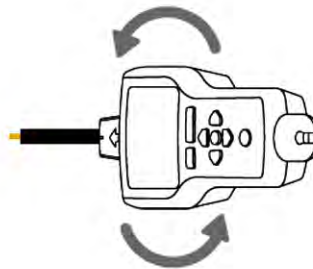

Figure 3.1i:
6. To verify wire direction, periodically rotate the Receiver 90 degrees. Signal strength will be highest when wire is aligned with Tip Sensor groove (Figure 3.1i).